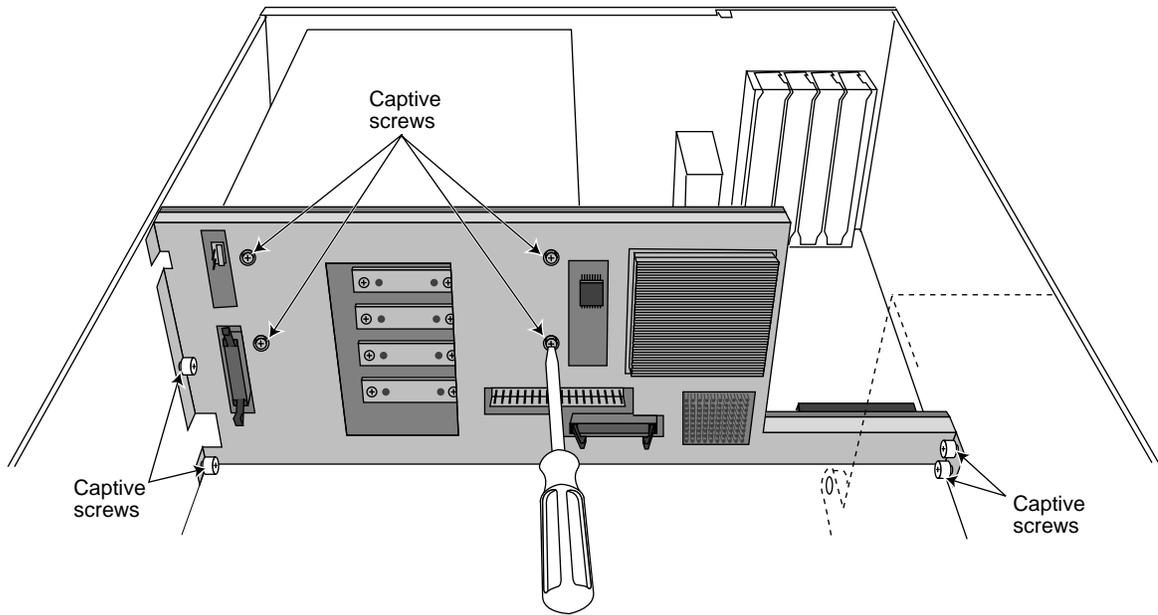

Figure 5-37 Unfastening the Midplane Captive Screws
7. Undo the eight captive screws that hold the midplane in place, as shown in Figure 5-37.